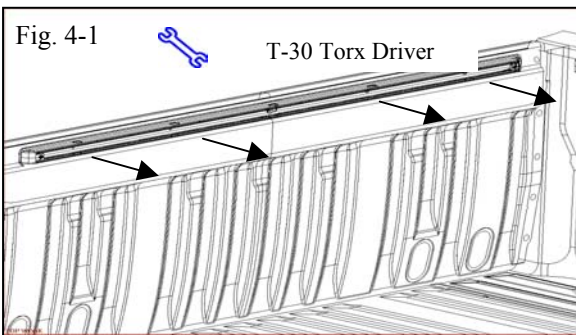

Fig. 4-1
- (1) Using a T-30 Torx driver, remove the four (4) mounting screws that fasten the front rail to the header panel. (Fig. 4-1)
- (2) Slide rail to right and remove.
- (3) Set the rail aside for re-use.
- (4) Set the screws/washers aside for re-use.